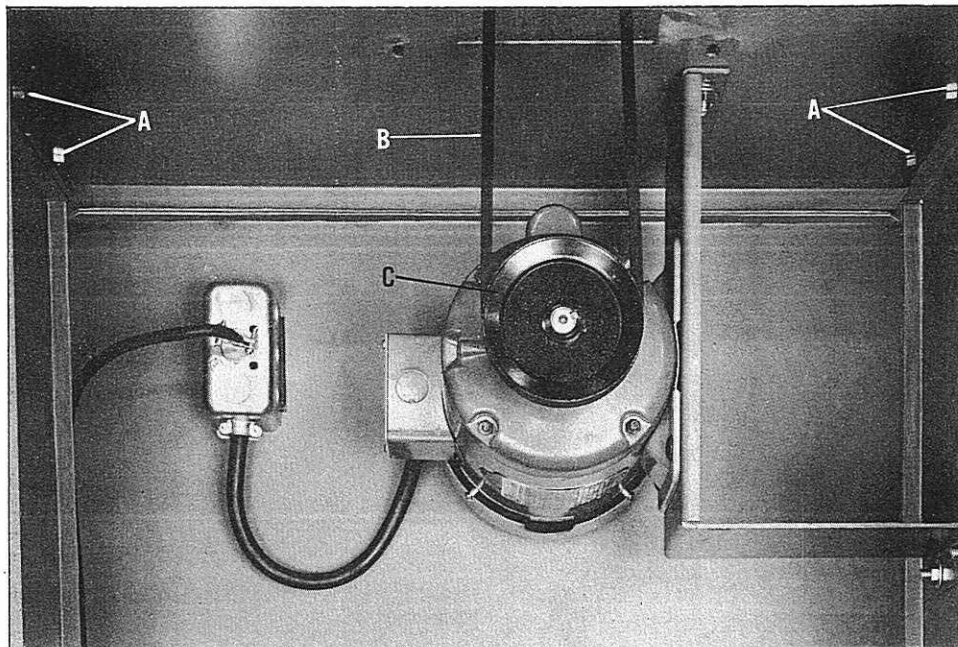

Fig. 1.
6. Assemble the four screws and washers (A) Fig. 1, to the bottom of the Uniplane. Thread the screws about halfway into the Uniplane base.
7. Place the Uniplane on top of the stand with the cutterhead pulley above the belt opening and with the four screws (A) Fig. 1, inserted through the large openings of the four keyholes on top of the stand. Visually align the cutterhead shaft parallel with the motor shaft by shifting the Uniplane and tighten screws (A) Fig. 1.
8. Place V-belt over pulleys and move motor pulley (C) Fig. 1, in or out so that it is in line with cutterhead pulley.